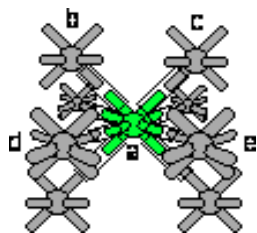
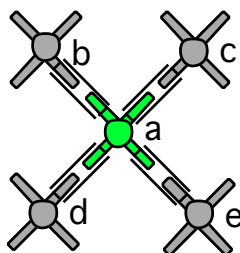
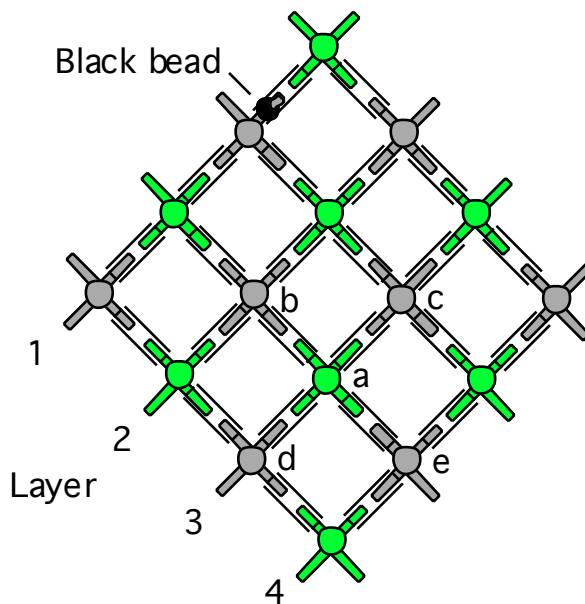

Fig. 5 Anion coordination number 8.
Fig. 6 Front side of CsCl unit cell.
Fig. 8 Side view of CsCl showing front of unit cell.
7. Bond one chloride with eight sodium ions to form a separate model to show the anion CN of eight. (Fig. 5)
8. The unit cell (basic building block) of a cesium chloride crystal is a simple cube. This shape can be observed in the model of the anion CN by holding the structure as in Fig. 5. Next rotate the model 45° toward you. The model will now look like Fig. 6. Notice that the four cesium ions and the chloride ion have been labeled in Fig. 5 to aid in the tracking of their positions. b and c are the upper, front corners of a cube. d and e are at the lower, front. The repositioned model should look like Fig. 6.
9. In order to observe the unit cell in the crystal model, turn it to coincide with Fig. 8. Look for the chloride ion labeled a, which will have the same relationship to a simple cubic unit cell as the chloride ion in Fig. 6.